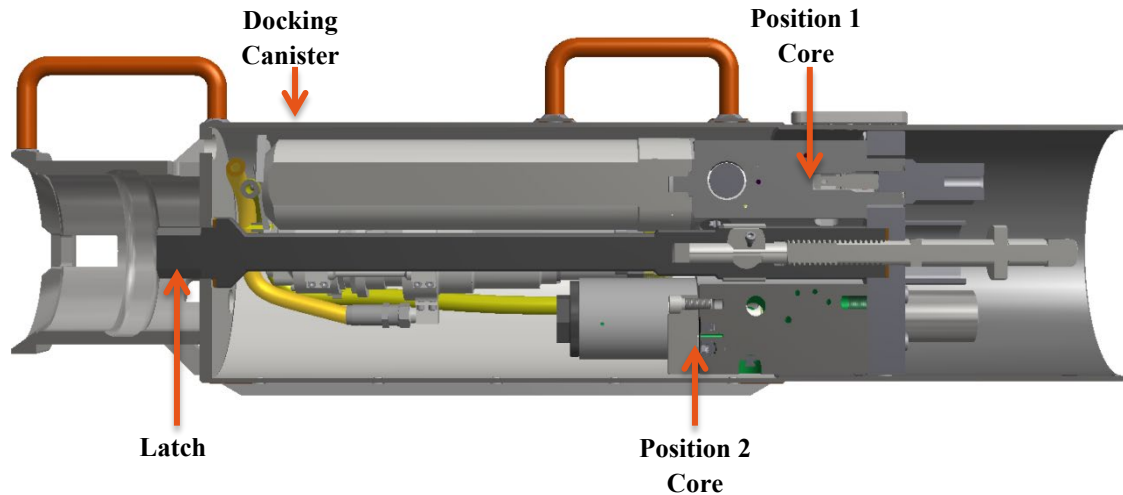

Figure 20: CIMV Overview Inside Docking Canister
- 13.5.1 The CIMV docking canister can contain one or two cores (as shown in Figure 20). These cores can be any combination of LF CIMV, HF CIMV or test flushing units.